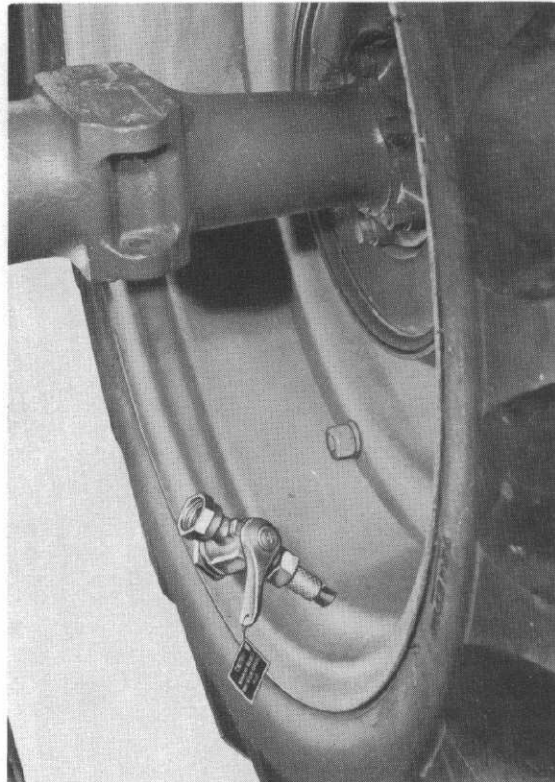

Fig. 14
Step 5—Rotate the wheel until the valve is in its lowest position as shown in Figure 14.